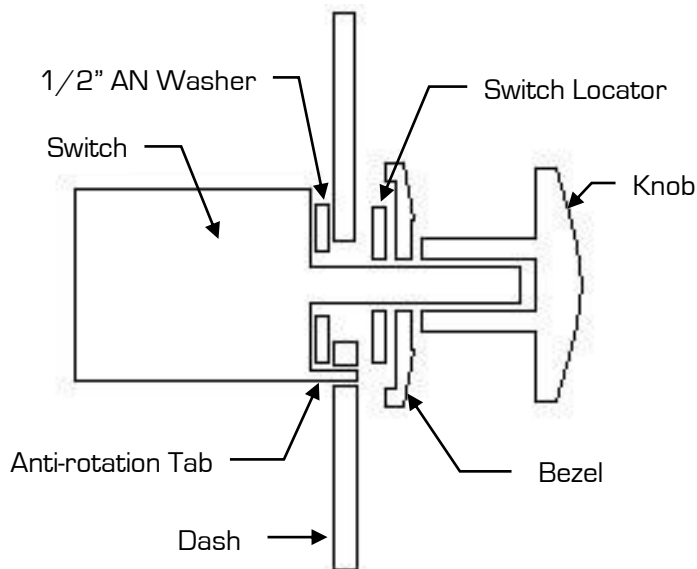

Figure 11a - Side View
21. Place the switch locator over the switch shaft followed by the bezel. Thread the bezel onto the switch shaft and tighten by hand to hold the switch in place on the dash (Figure 11a on page 7).